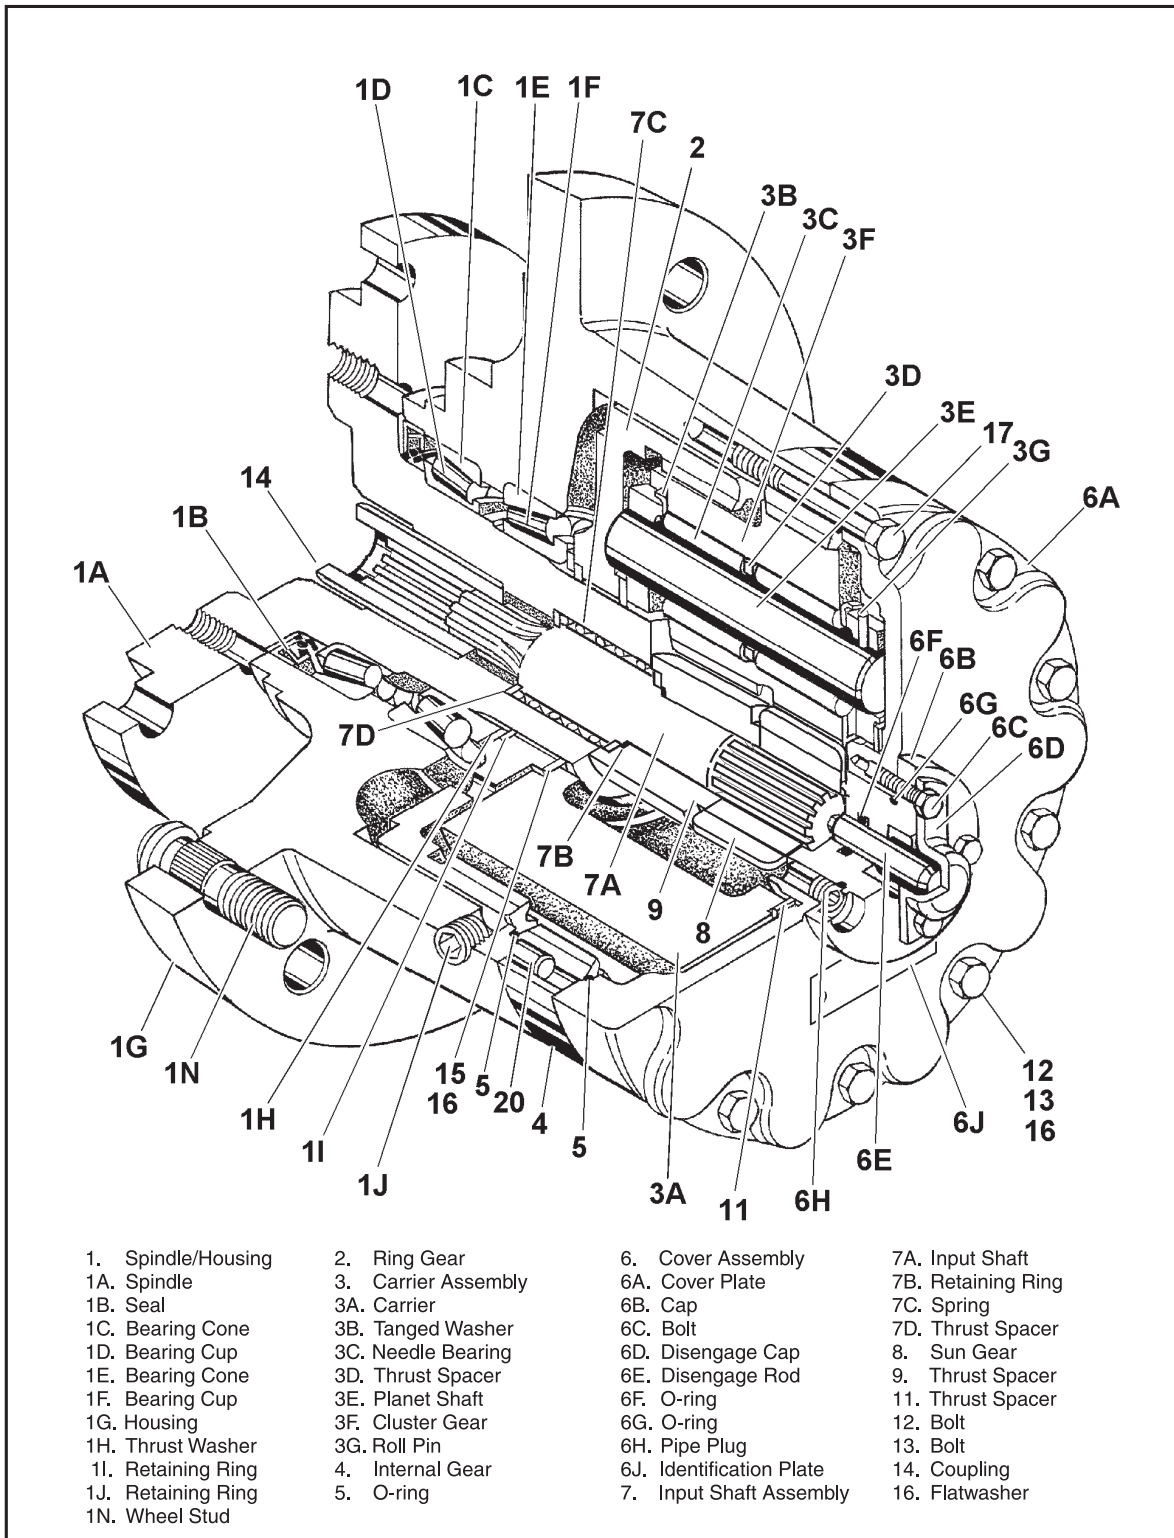

Figure 2-29. Torque Hub (S/N 39594 to Present) - Cutaway View
**NOTE:** All index number references in parentheses in the following paragraphs are in reference to Figure 2-29., Torque Hub (S/N 39594 to Present) - Cutaway View